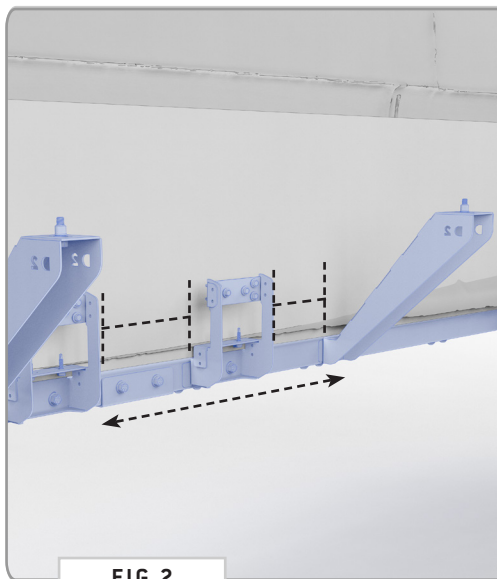

FIG 2
1.2 FVC Products Compatibility: The **Surf Pole** is designed to be mounted alongside our **Side Steps** (**FIG 2**) and is compatible with each of our roof racks (**FIG 3**) *except* the **Standard Rack**.